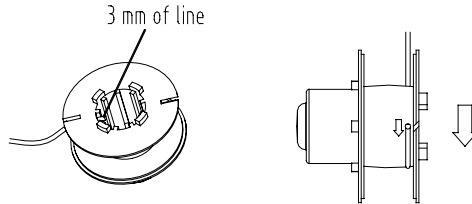

FIG 13
1. Insert one end of line into the hole in the spool as shown FIG 13 about 3 mm.
Snugly and evenly wind the line onto the spool in the direction of the arrow on the spool (FIG 13), until the line builds up to the notches in the spool rim. Do not overfill spool. The spool holds about 6.5 m of line.